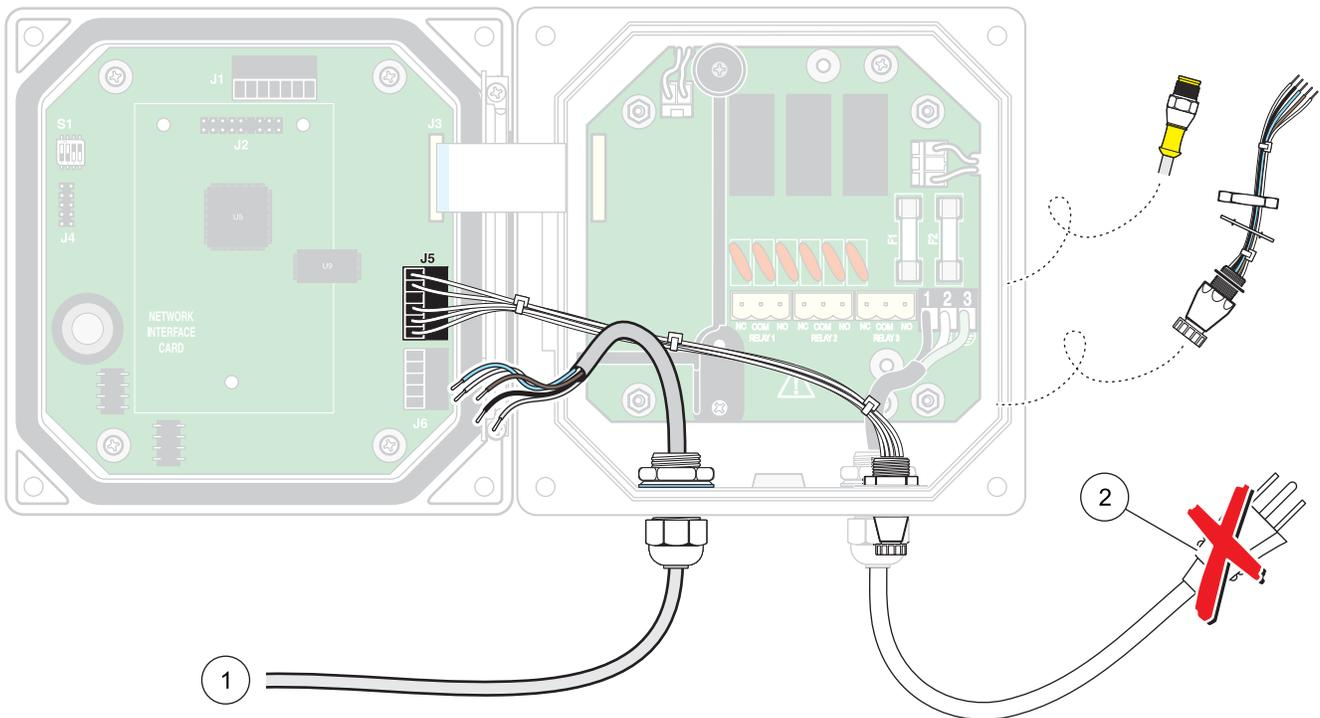

Figure 15 Hard-wiring the SS7 sc
3. Disconnect and remove the existing wires between the quick-connect and terminal strip J5 (Figure 15).
10. Wire as shown in Table 4 and Figure 15.